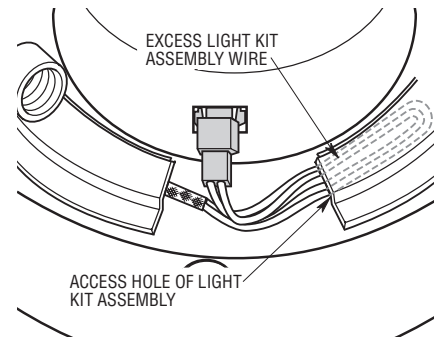

Figure 2
5. For storage of excess wire, gather the extra light kit assembly wire and carefully tuck into the access hole of the light kit assembly (Figure 2).